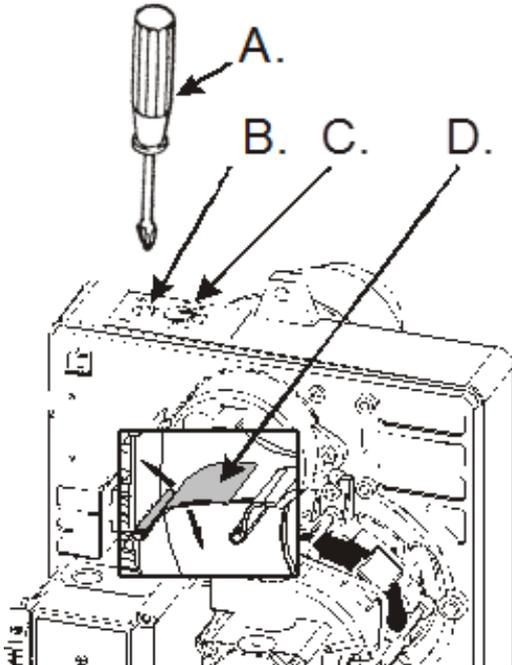

Figure 30 - Burner air adjustment.
The air flow adjustment is very well represented in the figure here on the side (Fig. 30). This type of adjustment is manual. The air flow is adjusted manually, using a screwdriver, on the adjustment screw. (B), The indicator on its side (C) instead, is used to identify the damper position (D) inside the burner case. By rotating the screw (B) clockwise, the indicator (C) increases its position and the air flow inside the combustion chamber increases (combustion rich in comburent air). By rotating the screw (B) anti-clockwise, the indicator (C) decreases its position and the air flow inside the combustion chamber decreases (combustion poor in comburent air).